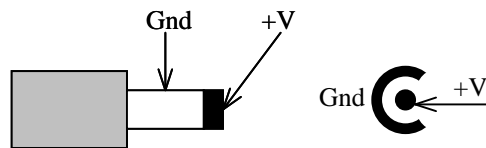

FIGURE 5: OSD156 POWER SOCKET CONNECTION DIAGRAM
- ▲ OSD156 external DC power in the range $+8V_{DC}$ to $+13V_{DC}$ may be connected via the 1.3mm concentric power socket located on the side. The internal pin is the positive connection and the outer connection is Ground (see Figure 5). The external power source can be a plug pack type unit such as the OSD156PP.